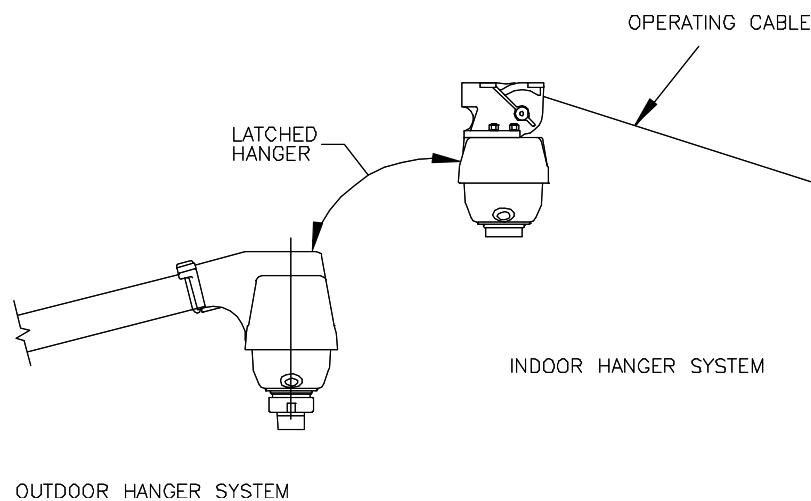

Figure 4-5. Latched Hanger Halves
- (5) **Very slowly** lower trip lever handle allowing trip lever to come to rest against the winch bracket. At this stage the hanger should be latched (Figure 4-5).
- (6) Set drill motor switch to the reverse mode, and turn winch counter clockwise. The cable should become slack (loose); indicating that the housing halves are properly latched. If the cable is taught (tight), the housing halves are not latched and the procedure must be repeated using slightly more force at the trip lever handle (repeat steps (4) through (6)).
- (7) When hanger halves are latched, disconnect power source from drill motor. At this stage Raising and Latching procedures are complete.